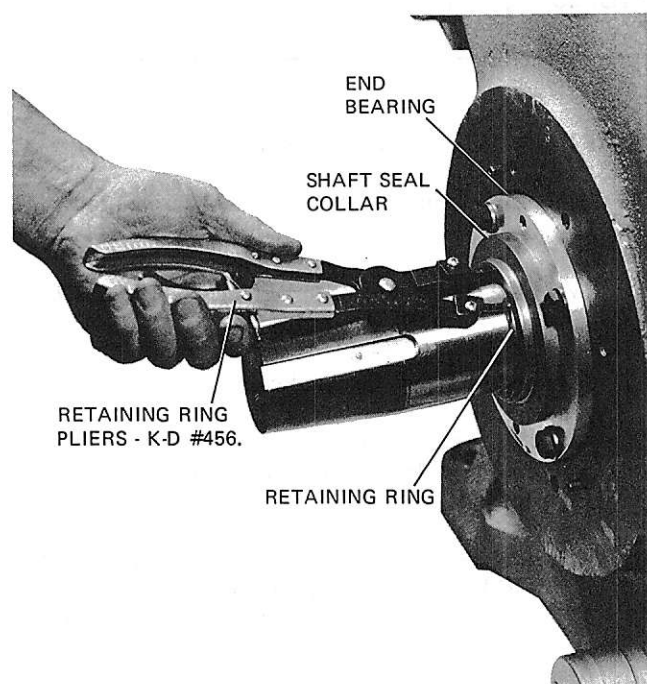

FIG. 39 — REMOVING CRANKSHAFT RETAINING RING
SHAFT SEAL END BEARING (SEE FIGS. 39 & 40)
5. Using the retaining ring pliers as shown in Fig. 39, remove the retaining ring, taking care that the compressor crankshaft is not marked or damaged in any way.
8. Using (2) 3/8" - 16 cap screws inserted into the jacking holes in the bearing flange, carefully remove the bearing from the compressor.